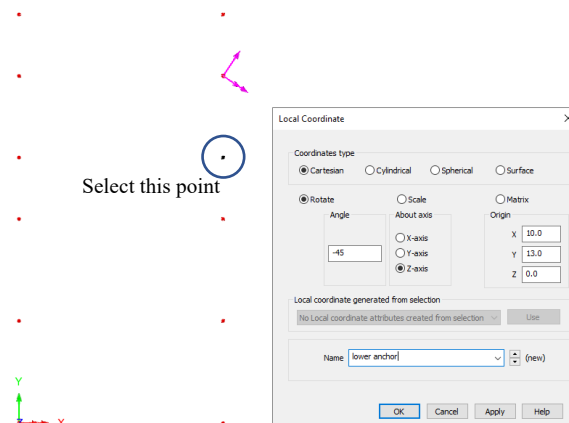

Figure 6: Definition of local coordinate system for lower anchor
- Select **Attributes > Local Coordinate...** and choose the radio button **Rotate**, enter an angle of **-45** in the angle field, a name of **lower anchor** (figure 6). Then click **OK**.